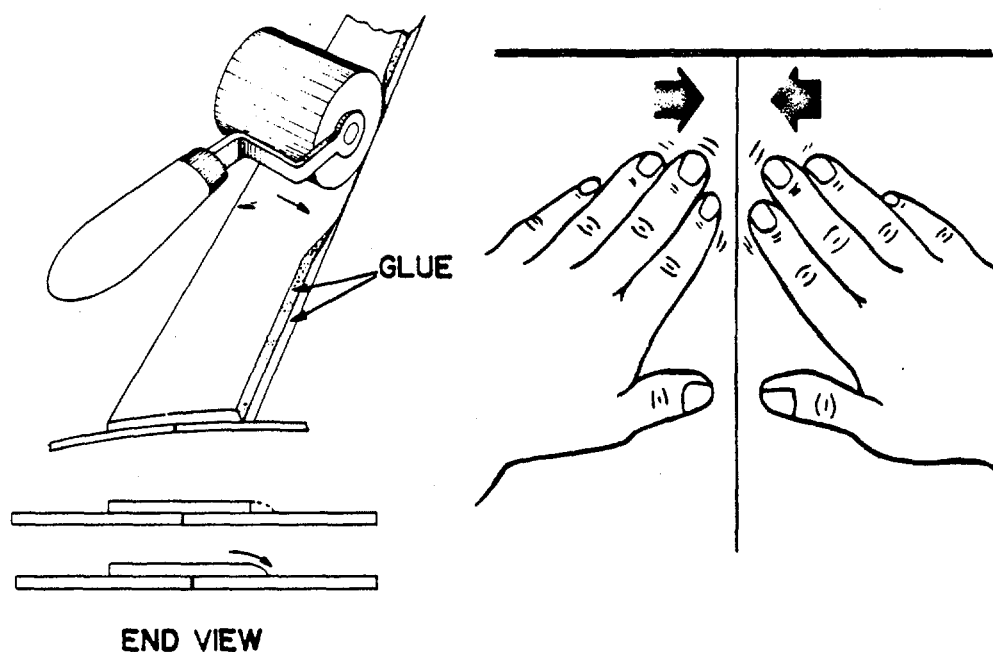

Figure 4-2. Seam, Repair.
- (1) *Seams.* (figure 4-2)
(2) *Puncture or tear.* (figure 4-2).